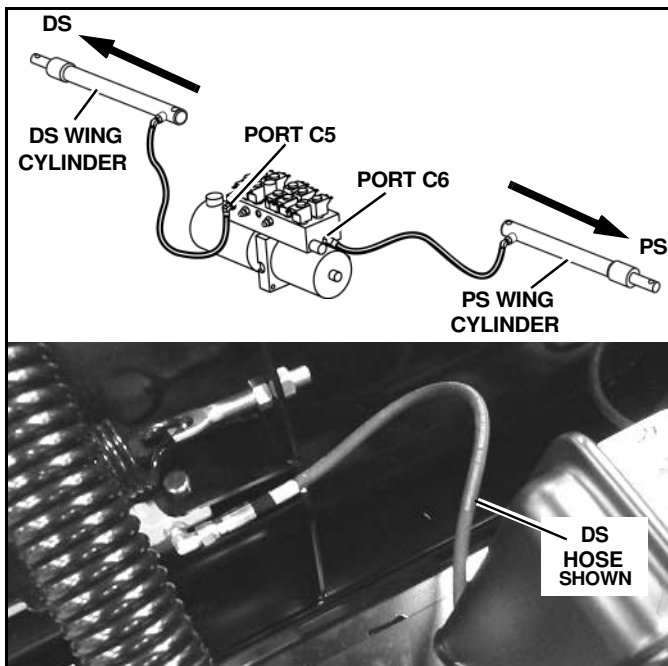

Figure 1-13
5. **REVOLUTION HD Only:** Connect the hydraulic hose from port C6 on the power unit to the right (PS) wing cylinder. Connect the hose from port C5 on the power unit to the left (DS) wing cylinder. (See Figure 1-13)